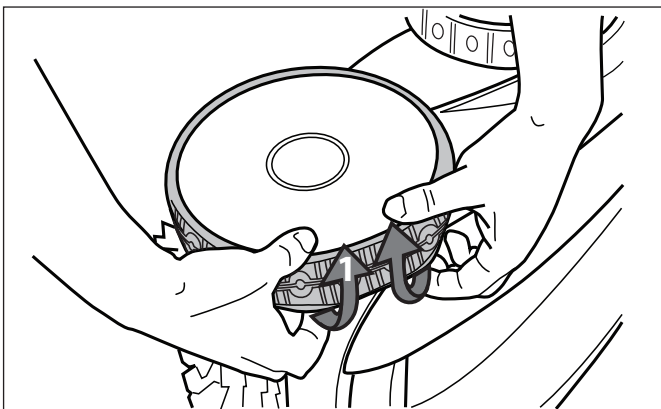

Figure 33. Pull the Old Tyre Over the Wheel
1. Pull on the inside of the old tyre to remove the tyre lip from the wheel (Figure 33).